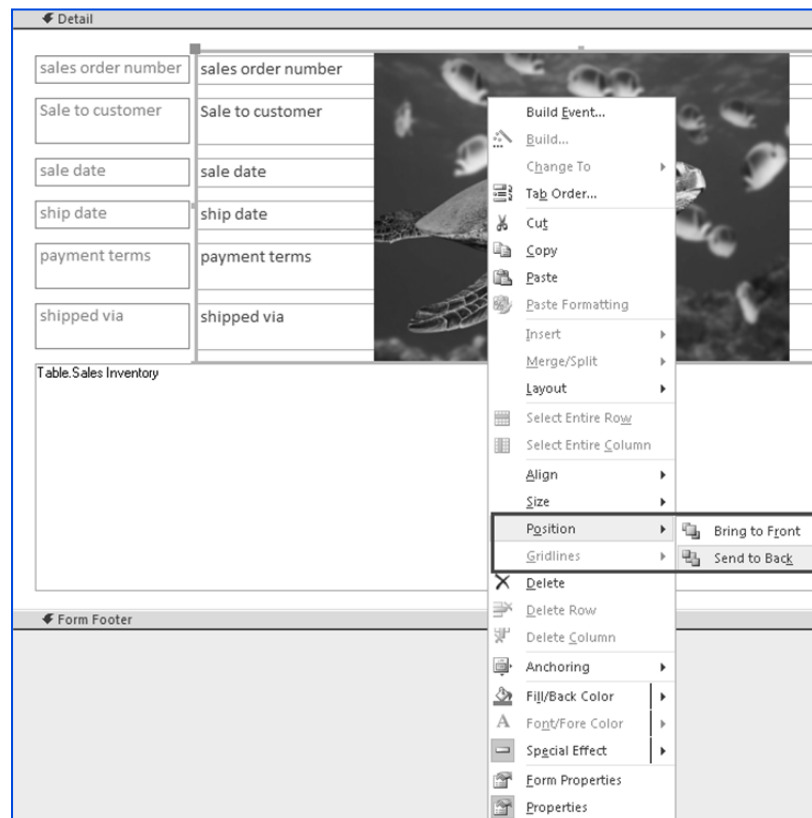

Fig. 2.2.7. Send the picture to back of controls
5. The picture is required to move to the back of controls. Right-click the picture and select *Position -> Send to Back* from the dropdown, as indicated in Fig. 2.2.7.